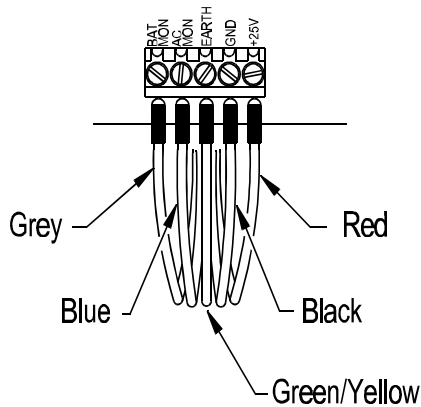

Figure 5: Control Module/Power Supply Connection
- Panel upgrades and modifications may require the removal of the D8024M Control Module from the panel enclosure. The correct wire connections to terminals at the lower right side of the control module are shown in Figure 5.